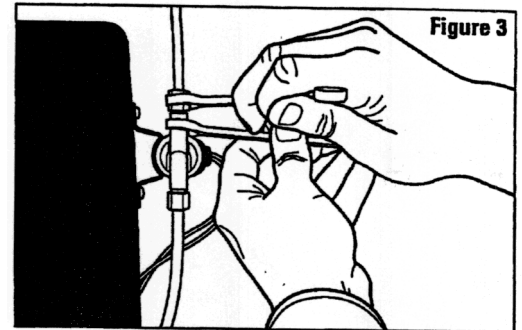

Figure 3
**8.** Connect tubing from the saddle valve to the inlet side of the solenoid valve using 1/4" O.D. copper tubing (not furnished). **DOUBLE WRENCH TO PREVENT LEAKING!** (See Figure 3)